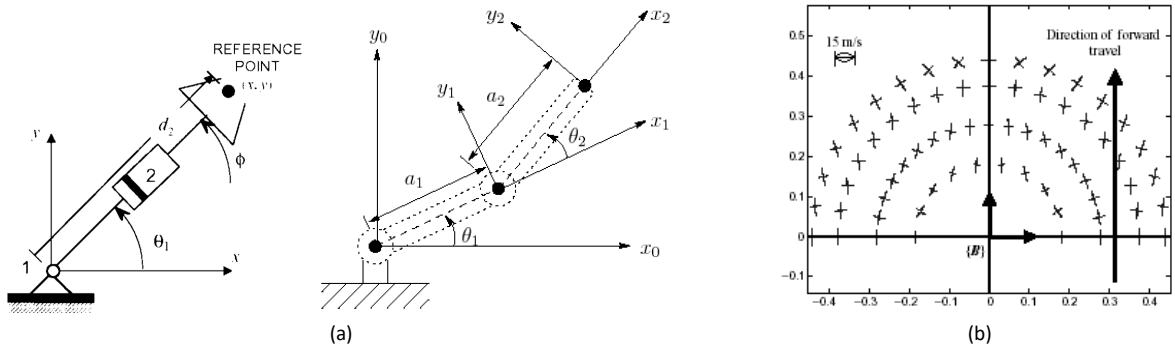

Figure 1: (a) A Planar RP and an RR manipulator and (b) Manipulability ellipsoids in the workspace (for illustration only)
For the following planar RP manipulator shown in Figure 1(a) assume that $0.5 \leq d_2 \leq 1.5$ and $0^\circ \leq \theta_1 < 360^\circ$. For the planar RR manipulator assume that $a_1=3$, $a_2=2$ and $0^\circ \leq \theta_1 < 360^\circ$ and $0^\circ \leq \theta_2 < 360^\circ$ and use the elbow-up configuration. Create a fine grid of the workspace and compute the inverse-kinematics solution for use in the sub-parts below.
- (iii) We can also determine the “manipulability ellipsoid” corresponding to a given end-effector location. Plot the “scaled manipulability ellipsoids” at a suitable finely spaced grid within the workspace of this manipulator – see the example shown in Figure 1(b) where only a suitably scaled version of the principal axes of the corresponding manipulability ellipsoid are shown).